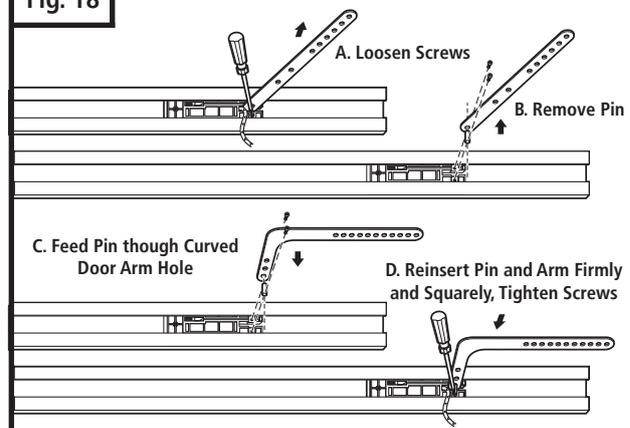

Fig. 18A Correctly seated pin.
- Carefully insert pin and door arm into slot in trolley. Push pin into slot with door arm so pin is fully seated into trolley slot. **IMPORTANT:** Pin must be straight and seated properly into recessed area in trolley. See Figs. 18A and 18B.